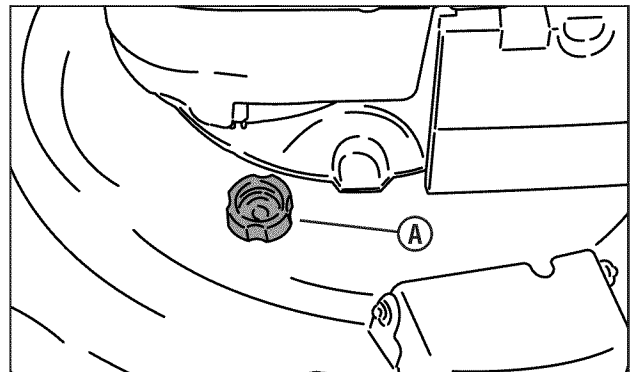

Figure 17: Washout port
5. Connect the male end of a standard garden hose to the washout port connector (**A, Figure 17**).